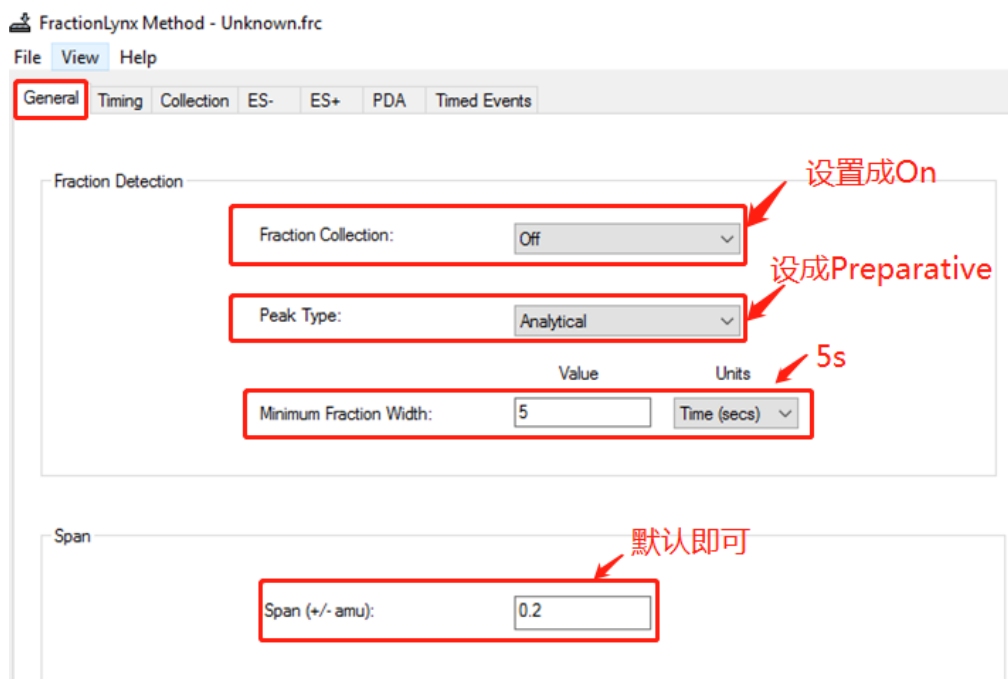

图6-35
Step2 设置General栏，Fraction Collection:On; Peak Type: preparative; Minimum Fraction Width: 5s; Span:默认值（图6-35）